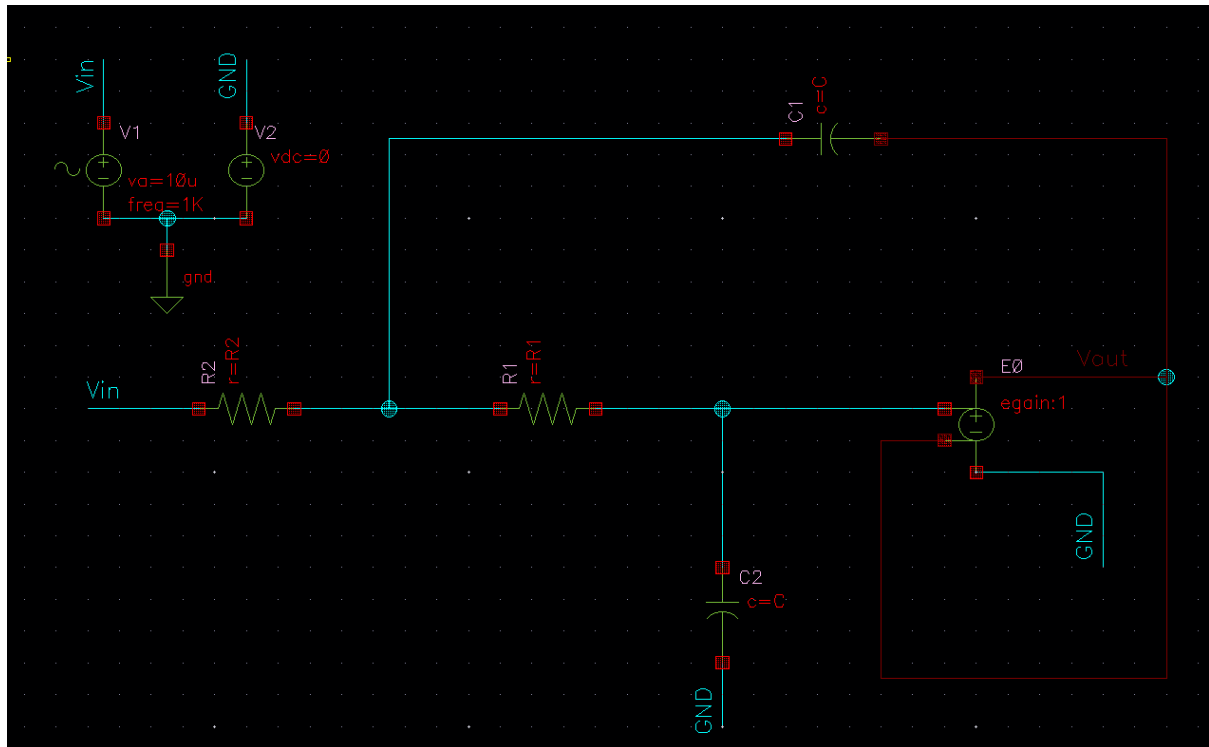

Figure 1: Schematic
- (Refer to Fig. 1) Design a second-order unity-gain active low-pass filter with a cutoff frequency of 50 kHz using the Sallen-Key topology. Plot and compare the frequency response of the Butterworth, Bessel, and Chebyshev filters. Also plot the time-domain response in the passband and stopband.
- (Refer to Fig. 1) Design a second-order unity-gain active low-pass filter with a cutoff frequency of 50 kHz, using Sallen-Key Topology. Plot and compare the frequency response of the Butterworth, Bessel, and Chebyshev filters. Plot the time domain response in the passband and stopband. (In this task, you need to do the design using your designed OpAmp.) Also, report the Roll-Off (dB) for all three Filters.